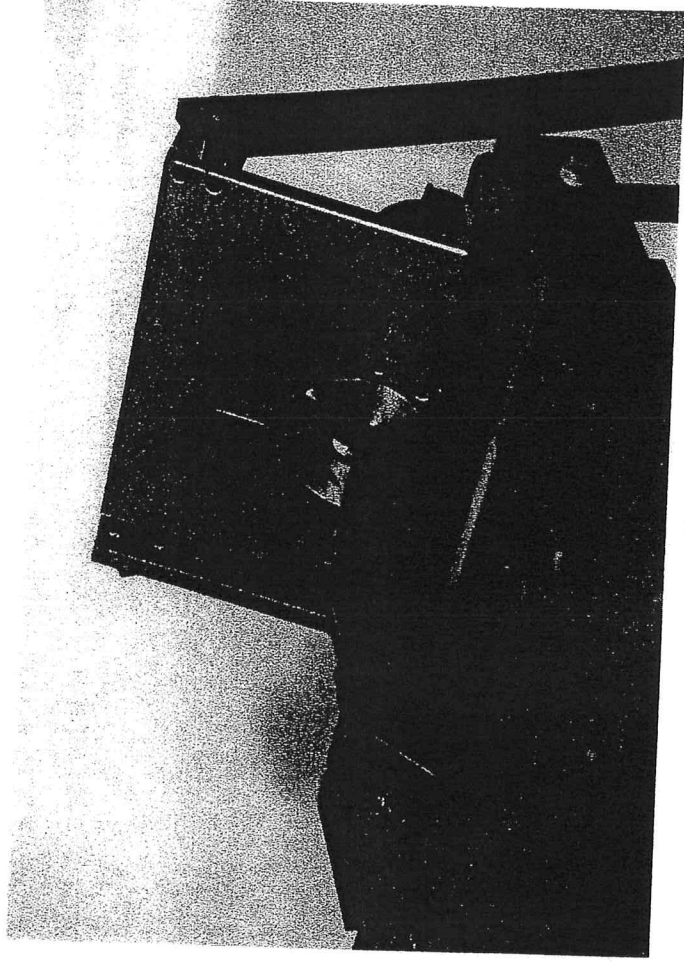

Fig. 36
6. Lower table 4 turns. Make another cut in workpiece A, finishing the pin. (fig. 36)